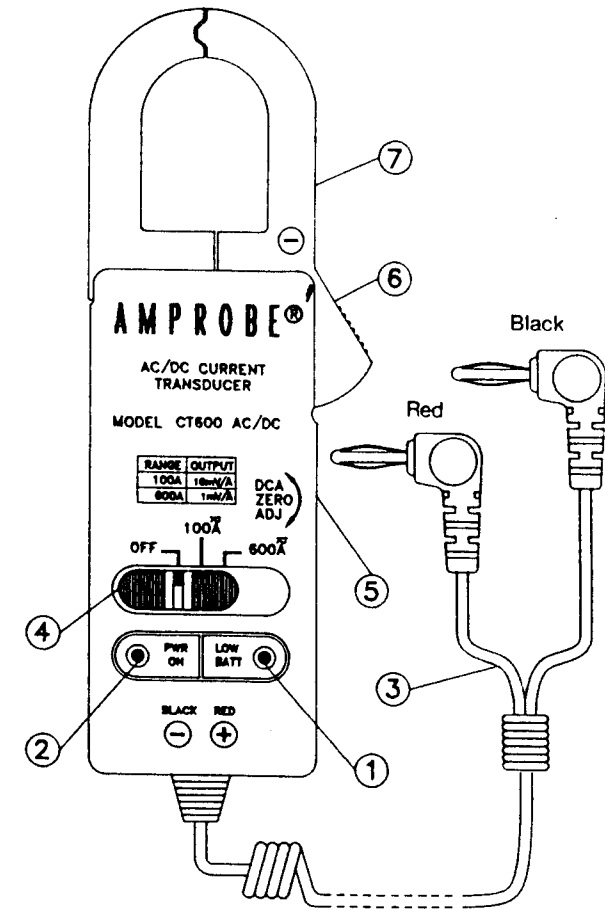

Fig. 1
Replace battery when red LED "Low Batt" turns on. (See fig. 1)
- 3) Turn on DVM and move slide switch on CT to the desired range. Zero output of transducer by turning zero adjust knob located on side of instrument. (See fig. 1)